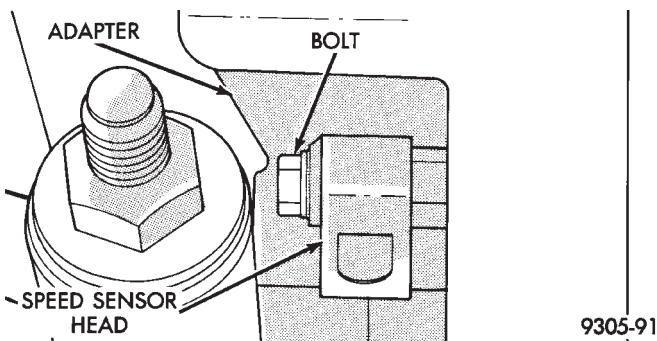

Fig. 5 Speed Sensor Head Removal From Adapter
(7) If vehicle is equipped with Anti-Lock brakes. Remove speed sensor head from the rear disc brake adapter (Fig. 5).